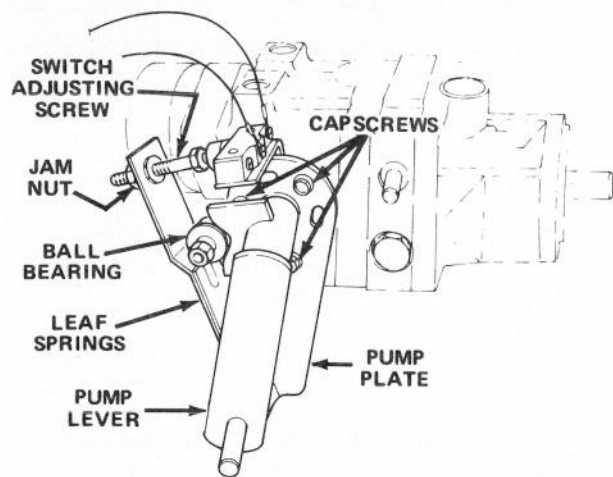

Figure 52
1. Park vehicle on a level surface and turn engine off. Apply the parking brake, tip seat forward and actuate pump lever (Fig. 52) to insure assembly is properly seated and operating freely. Correct any discrepancy.
of pump plate counterclockwise (Fig. 52). By contrast, tap pump plate clockwise if wheel is rotating backward (Fig. 52). When wheel stops rotating, tighten capscrews holding pump plate against side of transmission. Verify the adjustment with throttle in SLOW and FAST position.
- A. Ball bearing is loose or worn out (Fig. 52).
- F. Weak or damaged leaf springs (Fig. 52). Replace.
2. Actuate the pump lever (Fig. 52) to insure all parts are operating freely and seated properly.
3. Loosen jam nut. Rotate switch adjusting screw (Fig. 52) until there is a gap between head of screw and switch button.